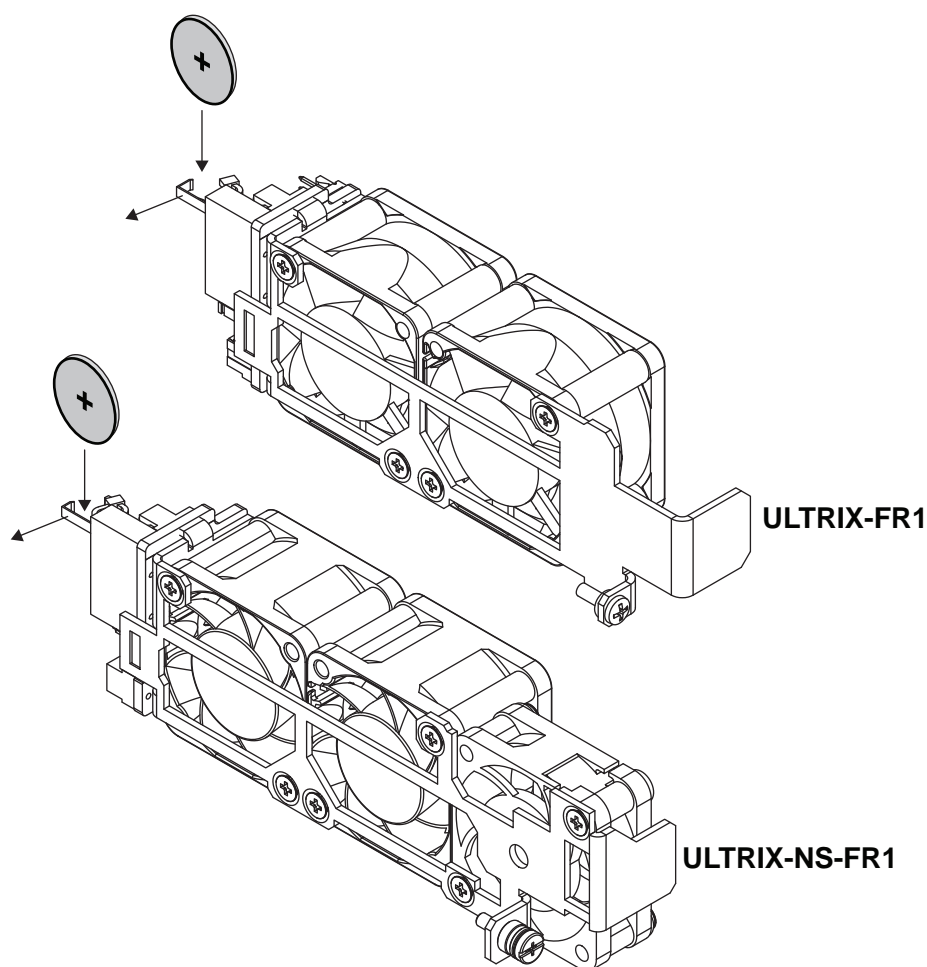

Figure 26.13 New Battery Orientation —ULTRIX-FR1 and ULTRIX-NS-FR1
1. Hold the battery in one hand and orient it so that the Positive side (+) faces away from you. (Figure 26.13)
1. Hold the battery in one hand and orient it so that the Positive side (+) faces away from you. (**Figure 26.13**)